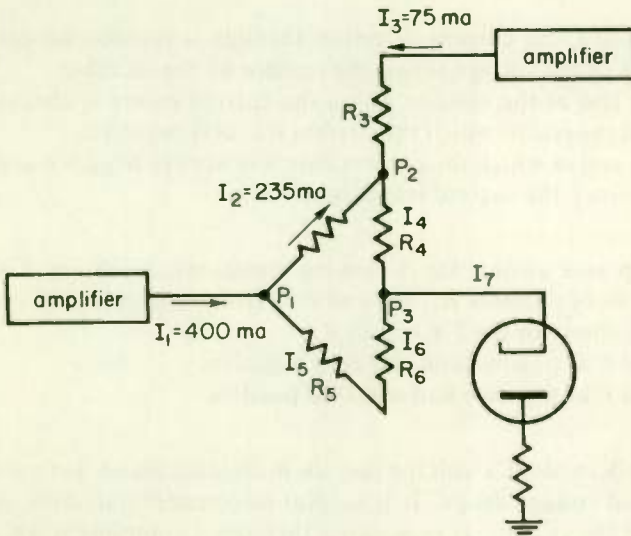

Fig. 44
9. Figure 44 shows part of a circuit from a variable-waveshape generator. What is the current through the diode tube?